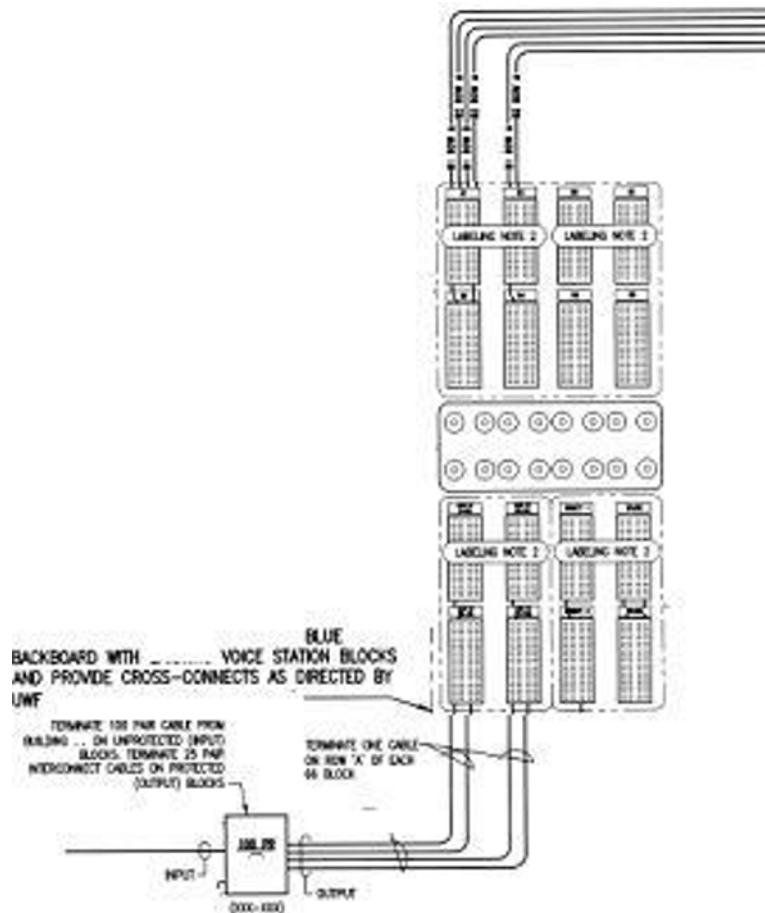

Figure 1
2. Cabling installed for voice service shall originate from owner furnished contractor installed Siemens RCM or IPDA shelf or shelves that are connected via 66 Blocks (if applicable). All 66 cross connect blocks shall be mounted on blue backboards with factory wiring spools (mounted on backboards) from end to end of Blue backboard on and/or bottom of backboards as required. See Figure 1 below. The 66 block cross connect field from the rack mounted patch panels to the backboard shall be installed and terminated to accommodate the maximum number of circuit cards in the shelf or shelves providing service as indicated on the drawings. 25 pair Cat 6 cabling shall be provided and installed from the 66 blocks terminating on rack mounted patch panels. Labeling for patch panels, cross connect blocks, protector blocks, etc. shall be engraved composite tags with the appropriate information listed on the tag.
All cross connect blocks shall be mounted on blue backboards with factory wiring spools mounted on backboards from end to end on top and/or bottom of backboards as required. Labeling for cross connects blocks shall be installed over each backboard. Labeling for patch panels, cross connect blocks, protector blocks, etc. shall be engraved composite tags with the appropriate information listed on the tag. If service for one location is provided from another location via outside plant cabling 66 blocks shall be provided, installed, and cross connected for all pairs of the protector block(s) present at each location. See figure 1 above. If service is provided from within the location itself from an internal shelf or shelves 66 blocks shall be provided and installed as described in section 1.10 D for the maximum number of circuit cards for each shelf. Patch Panels installed in equipment racks shall be minimum 48 ports and shall have corresponding 66 blocks provided and installed as described in section 1.10 D, These blocks shall be located next to the service providing blocks. Cross connecting blocks extending service from one location to another shall have fifty percent of the service providing pairs terminated on SLMO circuit cards and fifty percent of the pairs terminated on SLMA circuit cards.